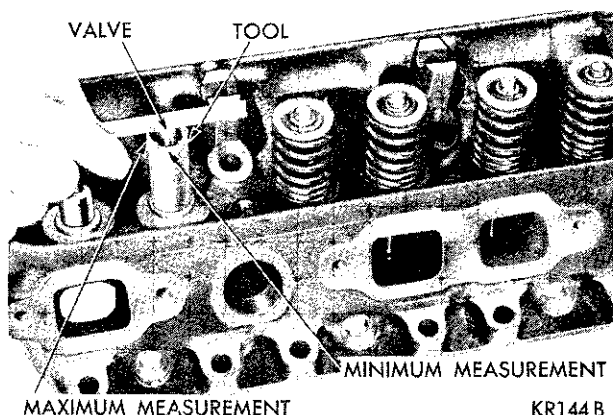

Fig. 12—Measuring Valve Stem Length
(3) When the seat is properly positioned the width of the intake seats should be 1/16 to 3/32 inch. The width of the exhaust seats should be 3/64 to 1/16 inch.
(4) Measure the concentricity of the valve seat using dial indicator No. 13725. The total runout should not exceed .003 inch (total indicator reading).
(5) When valves and seats are reground, the position of the valve in the cylinder head is changed, shortening the operating length of the hydraulic tappet. This means that the plunger is operating closer to its "bottomed" position, and less clearance is available for thermal expansion of the valve mechanism during high speed driving.
(6) The design of the valve mechanism includes a safety factor to allow for a limited amount of wear, and the refacing of the valves and seats.
(7) To insure that limits have not been exceeded, the dimension from valve spring seat in the head to the valve tip should be measured with gauge, Tool C-3648 (Fig. 12).
(8) The end of the cylindrical gauge and the bottom of slotted area represent the maximum and minimum allowable extension of the valve stem tip beyond the spring seat.
(9) If the tip exceeds the maximum, grind stem tip to within gauge limits. Clean tappets if tip grinding is required.